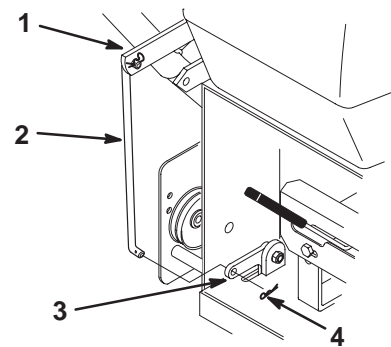

Figure 8
1. Rotate the blade control (PTO) lever vertically away from the left handle so that the blade control (PTO) rod drops down (Fig. 8).
2. Remove the hairpin cotter from the bottom end of the blade control (PTO) rod (Fig. 8).
3. Secure the blade control (PTO) rod through the hole in the bell crank with the hairpin cotters (Fig. 8).